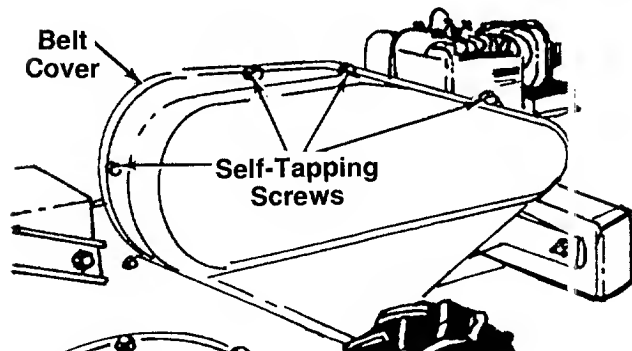

FIGURE 24.
1. Remove belt cover by removing the four self-tapping screws. See figure 24.